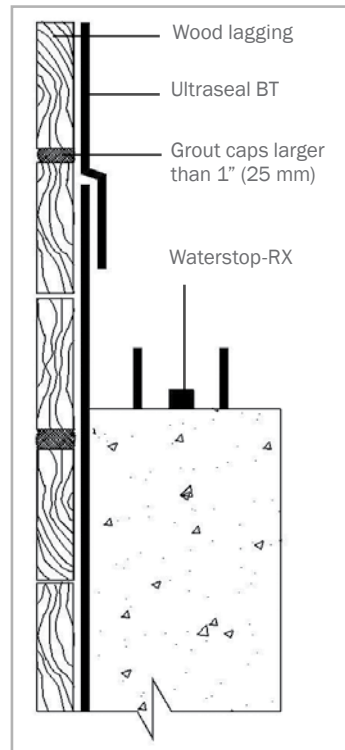

Figure 2.7 - Ultraseal BT installed directly to wood lagging with gaps filled. (Cast-in-place concrete wall)
**Preparation:** Gaps between the wood lagging must be no wider than 1" (25 mm). If the gaps between lagging are in excess of 1" (25 mm), the gaps should be completely filled with cementitious grout, wood, extruded polystyrene (40 psi min.) or compacted soil (Figure 2.7). If water is flowing through the lagging, a 6-mil (0.15 mm) polyethylene sheeting can be installed over the area before Ultraseal BT is installed.